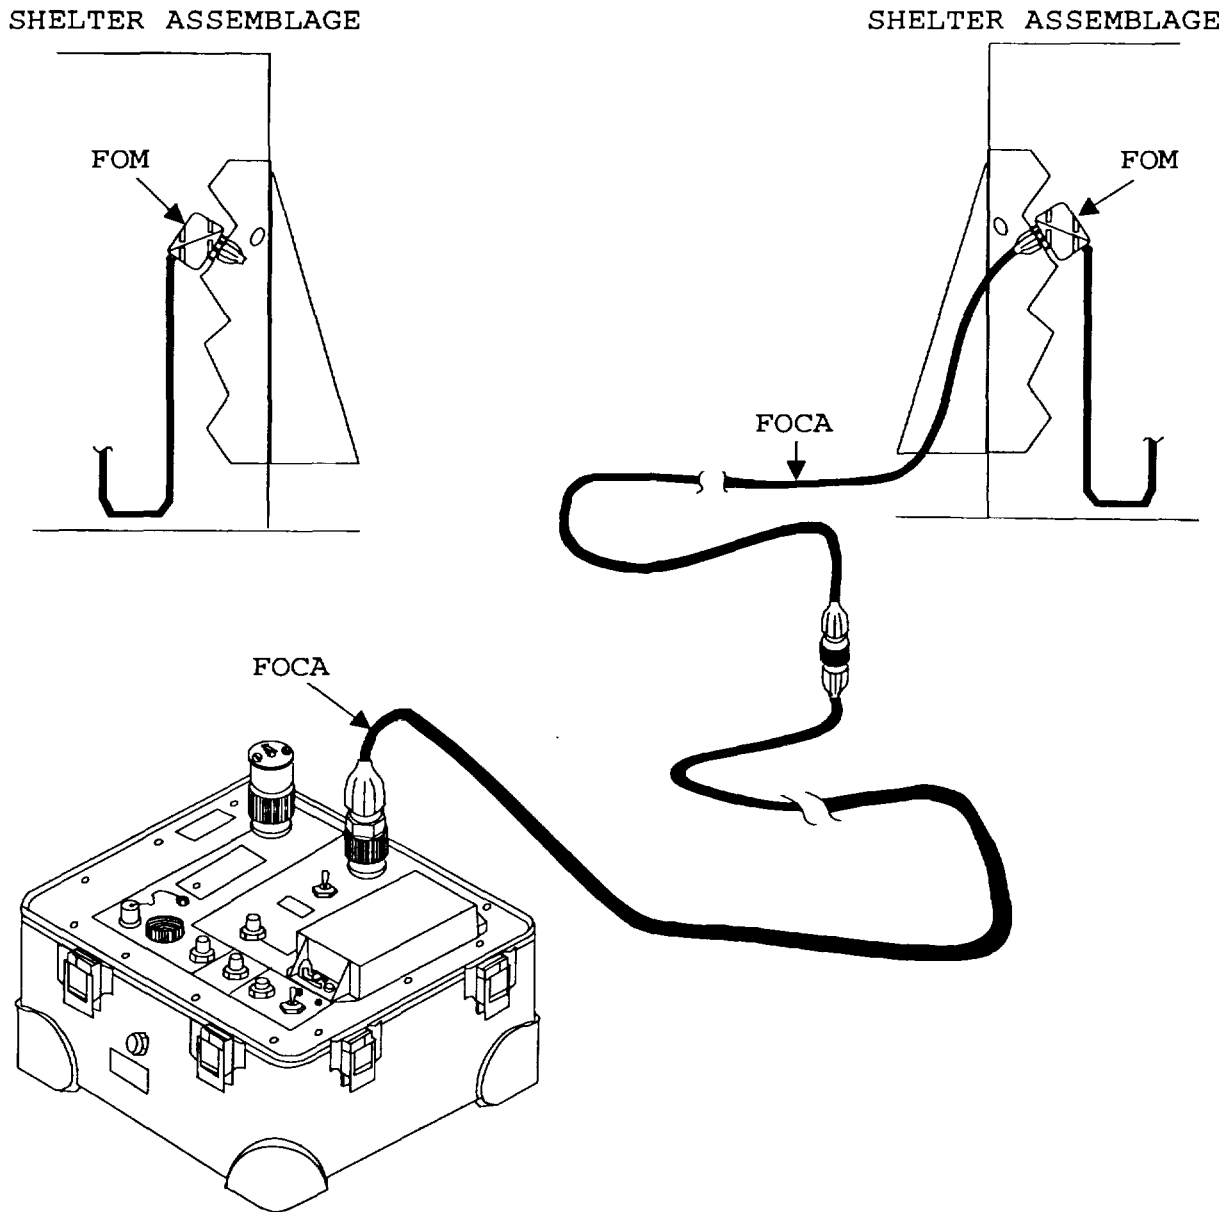

FIGURE 2-7. Test Setup for Optical Power Measurement On A FOCA.
- (18) Set POWER switch to OFF.
- (19) Close case top (refer to para. 2-5f). Fault isolation procedure is complete.
- (20) Connect FOCA linked to Shelter 2 to FTF connector. The test setup for optical power measurement on a FOCA is shown in Fig. 2-7.
- (21) Compare OSM display reading to minimum acceptable reading listed in Table 2-2. Record display readings.
- (22) Disconnect FOCA from FTF FOBC and reconnect to FOM.
- (23) Install dust cover on FTF FOBC.
- (24) Set POWER switch to OFF.
- (25) Close case top (refer to para. 2-5f). If FTS operation is still required, proceed with step (26).
- (26) Transport FTS to next FOCA connection.